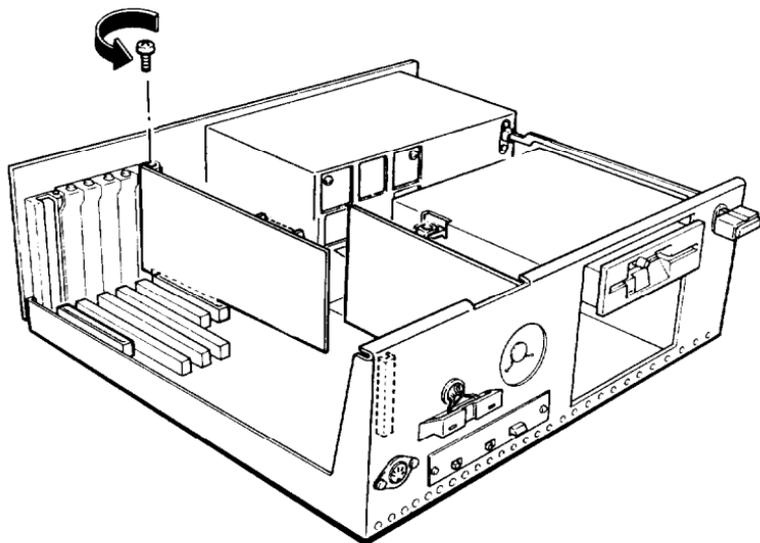

Figure A-7. Removing multi-function card retaining screw
2. Remove the retaining screw from the multi-function card at the back panel of the computer, as shown in Figure A-7.